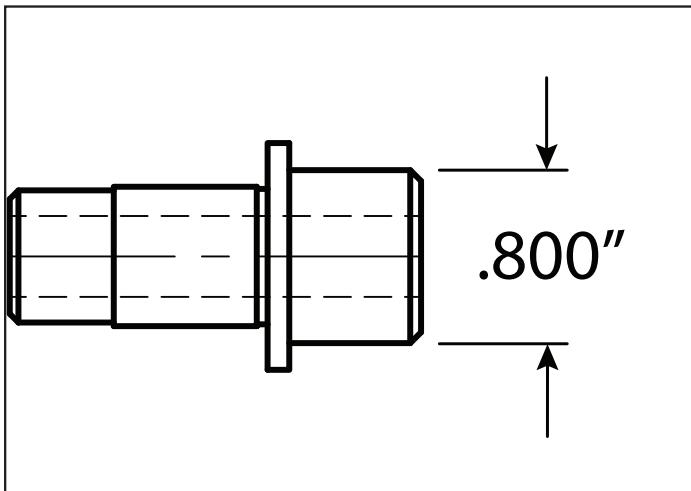

Figure 1
2. Machine stock valve guides. This kit is not compatible with stock valve guides. If using stock valve guides, the top portion above the flange must be machined to the dimension shown in Figure 1. Compatible guides are available from S&S.